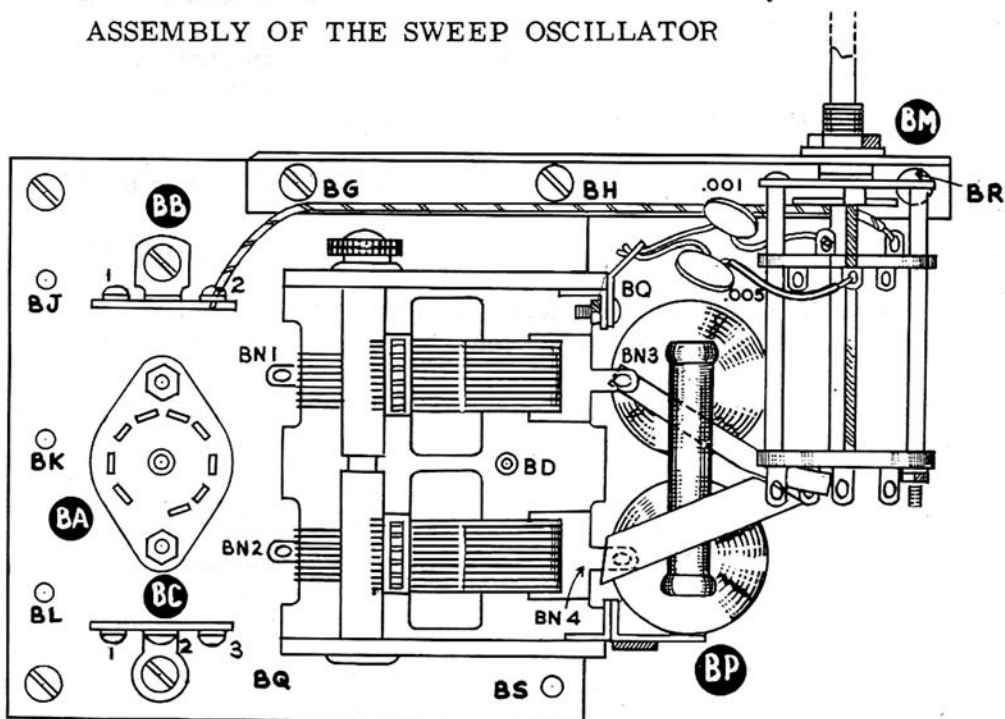

Figure 6
- () 114. Orient the insulated chassis board so that the tube socket hole is at the left, with the three small irregularly spaced holes nearest you. Check with Figure 6.
- () 132. Install the controllable inductor, checking Figures 6 and 8. The ends of the red and yellow high frequency flat straps that are close together should fit between lugs 1 and 2 on switch BM. The opposite ends of the straps should be over stator lugs BN3 and BN4 on the tuning condenser. When everything is properly lined up, secure the unit in place with 6-32 screws through the inductor mounting bracket and holes BE and BF. These same screws hold the tuning condenser. Use a lockwasher under the head of screw BF and a solder lug under the head of screw BE. The solder lug should be toward hole BJ.